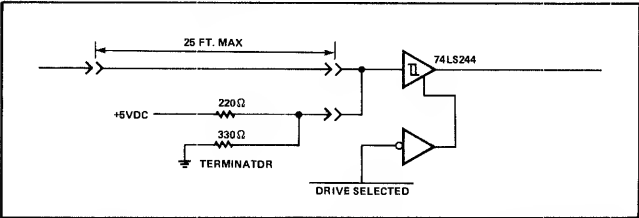

Figure 3-28. Single End Line Receiver Gated By DRIVE SELECT
3.19.2 + AD 0–1. This high-active 2-bit wide address bus is used to select one of three registers into which data can be stored, or one of three registers from which data can be read. These lines connect directly to a 74LS244 Schmitt-triggered receiver gated by DRIVE SELECTED, as shown in Figure 3-28. The DC characteristics are listed in Table 3-3. These lines should be terminated at the drive end.
TED, as shown in Figure 3-28. The DC characteristics are listed in Table 3-3. This line should be terminated at the drive end.
3.19.4 – WR. This low-active signal is used to gate the DBUS into the selected register (decode of AD1, AD0). This line is connected to a 74LS244, gated by DRIVE SELECTED, as shown in Figure 3-28. The DC characteristics are listed in Table 3-3. This line should be terminated at the drive end.
3.19.5 – RESET. This low-active signal resets the drive logic. If the drive is sequenced down when RESET occurs, it will remain sequenced down. If the drive is sequenced up, it will remain up and the head carriage will Restore to cylinder zero. This line is connected to 74LS244, gated by DRIVE SELECTED, as shown in Figure 3-28. The DC characteristics are listed in Table 3-3. This line should be terminated at the drive end.
3.19.7 – HEAD SELECT 1, 2, and 4. These low-active signals are used to select the desired data head for reading or writing. Head selection decoding is shown in Table 3-2. This line is connected to a 74LS244, gated by DRIVE SELECTED, as shown in Figure 3-28. The DC characteristics are listed in Table 3-3. This line should be terminated at the drive end.
3.19.11 – WRITE GATE. This low-active signal enables the writing of data by a selected head. This line is connected to a 74LS244, as shown in Figure 3-28. The DC characteristics are listed in Table 3-3. If long cables are used, this line should be terminated at the drive end.
3.19.12 – READ GATE. This low-active signal initiates synchronization of the drive's phase lock loop for data separation. READ GATE must be enabled during a gap. This line is connected to a 74LS244, as shown in Figure 3-28. The DC characteristics are listed in Table 3-3. If long cables are used, this line should be terminated at the drive end.